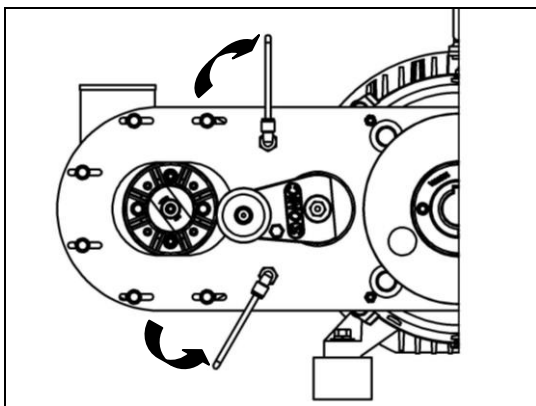

Figure 35 – Remove Water Cooling Tubing
3. Disconnect the water-cooling lines at the quick disconnect on the blower head. (If Applicable)(See Figure 35)